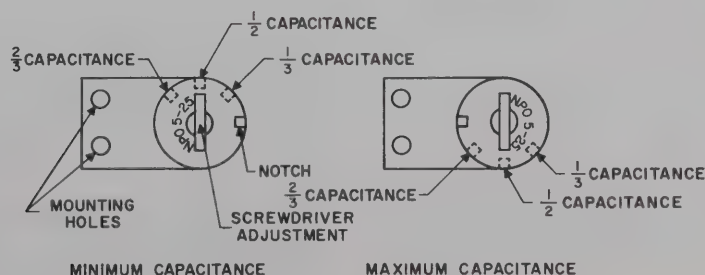

Figure 4-2. Ceramic Trimmer Capacitors
a. Adjust C101, C41, C52, and C69 to 2/3 maximum capacity. Adjust C65 to 1/3 maximum capacity. Adjust all other ceramic trimmer capacitors, except CAR BAL capacitor, C11, at 1/2 maximum capacity. Make no changes in settings of neutralizing capacitors C55, C57, and C71. Figure 4-2 shows maximum-, minimum-, and half-capacity settings of ceramic trimmers.